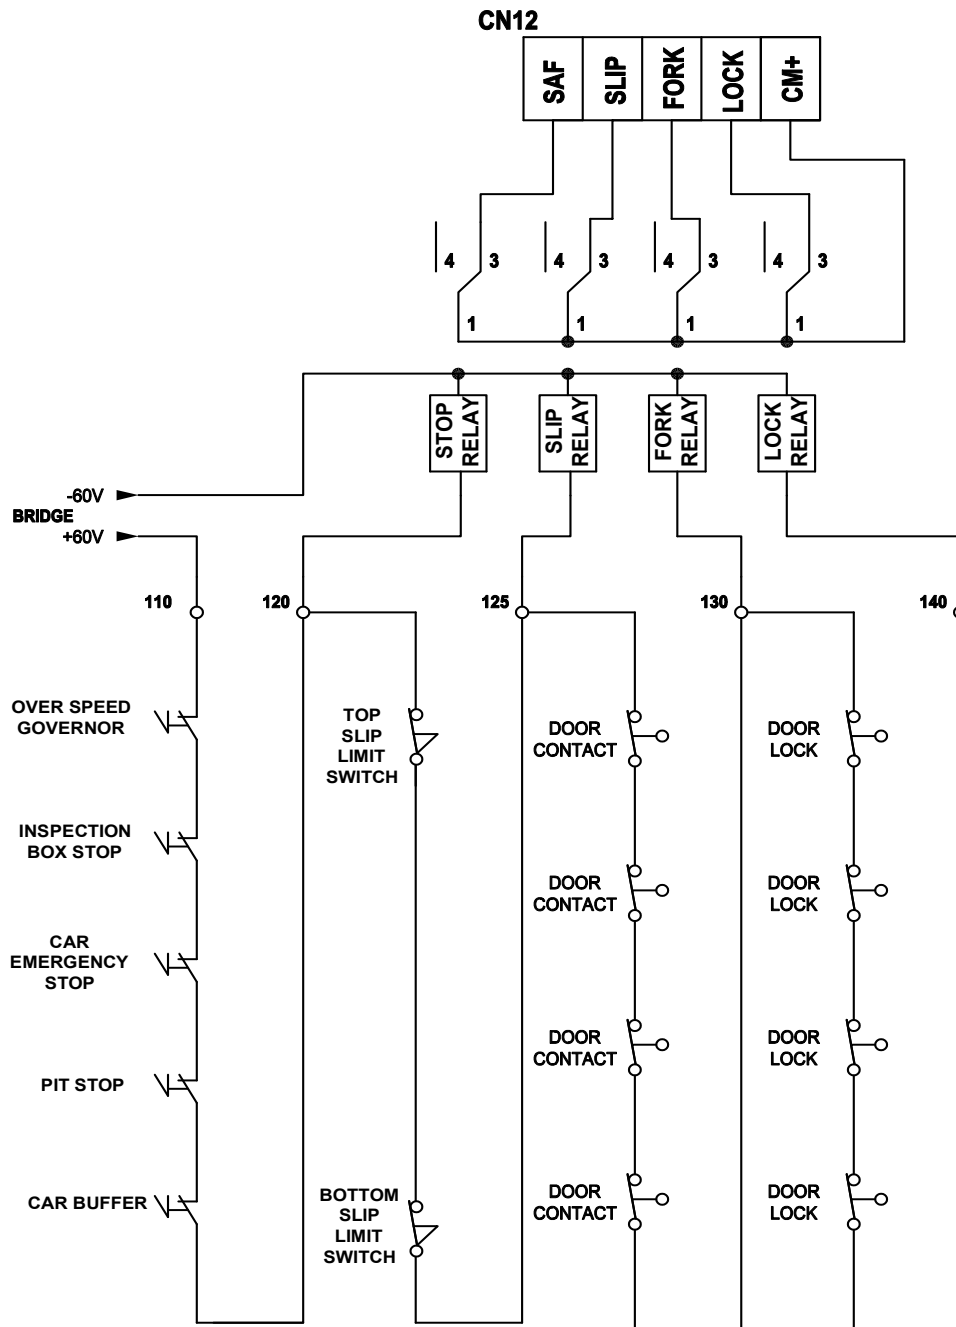

Figure 26.0 - Safety Circuit Connections
The terminals of the Safety Circuits are connected as illustrated in Figure 26.0.
- Figure 26.0 represents a guide for connecting Safety Circuits to the shaft terminals (CN12) on the XC-DUP series board.
- The Safety Circuits are operated with 60V DC using an external relay as illustrated in Figure 26.0.
- Figure 26.0 represents the condition when all safety circuits are closed, where the car can operate normally.